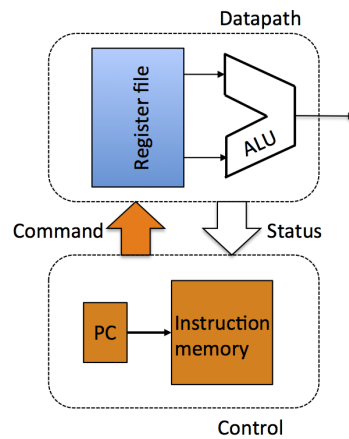

Figure 1: Processor schematic.
As we talked about in lecture 4, a processor contains two main parts: Control and Datapath. The datapath typically consists of an ALU, register file and some multiplexers. The control consists of an instruction memory from which to fetch the instructions and a program counter (PC) to pick the next instruction. Figure 1 shows this processor schematic ¹. In order to define the behavior of the controller the designer first needs to define the processors instruction set. The processor's instruction set defines what the processor is capable of doing and it is very dependent on: